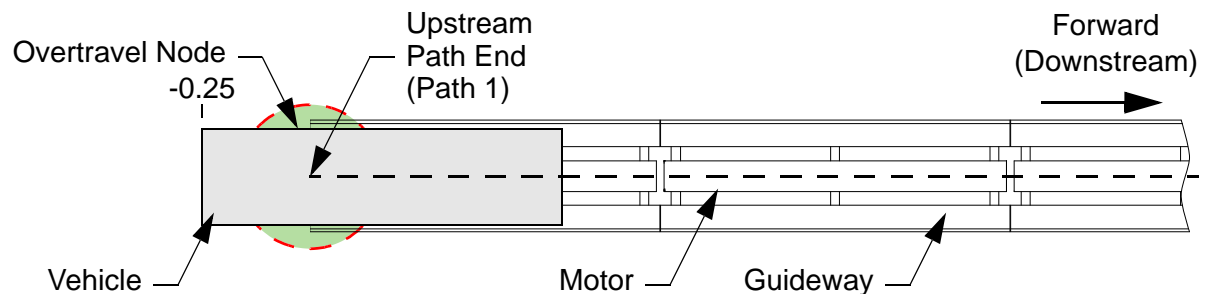
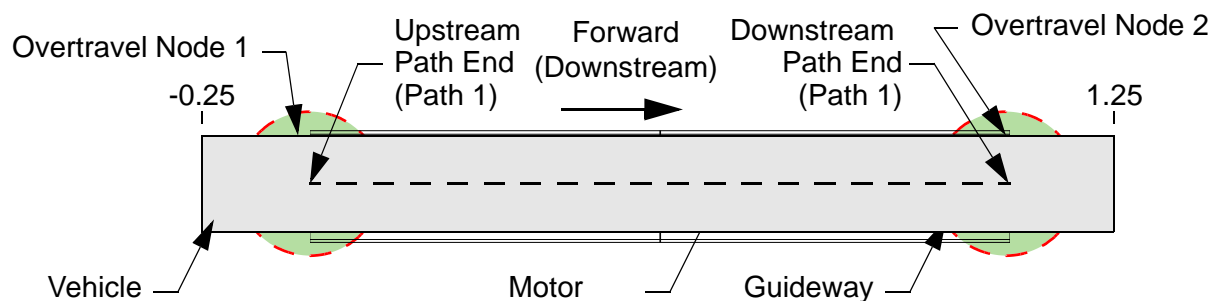

Figure 3-36: Overtravel Node, Startup Top View
Figure 3-37: Overtravel Node, Extended Vehicle Top View
An Overtravel Node is used to permit part of a vehicle to move past the end of the motor at the end of a path. Additional support structure (guideway) for the vehicle must be provided, or the supports (wheels) for the vehicle must not be allowed to move past the end of the path. See Figure 3-36 and Figure 3-37, where the shaded area represents Overtravel Nodes.
- Providing space for vehicle motion during startup (Figure 3-36).
- Allowing motion of a vehicle that is longer than the path (Figure 3-37).